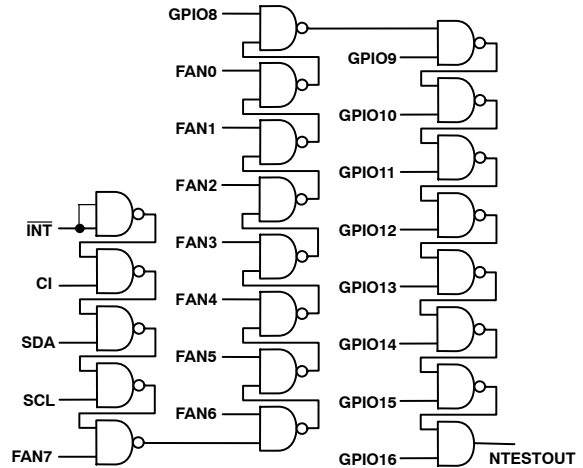

Figure 55. NAND Tree
A NAND tree is provided in the ADM1026 for automated test equipment (ATE) board-level connectivity testing. This allows the functionality of all digital inputs to be tested in a simple manner and any pins that are nonfunctional or shorted together to be identified. The structure of the NAND tree is shown in Figure 55. The device is placed into NAND tree test mode by powering up with Pin 25 held high. This pin is sampled automatically after powerup, and if it is connected high, then the NAND test mode is invoked.
- If any of the inputs shown in Figure 55 are unused, they should not be connected direct to ground, but via a resistor such as 10 k $\Omega$ . This allows the automatic test equipment (ATE) to drive every input high so that the NAND tree test can be properly carried out.